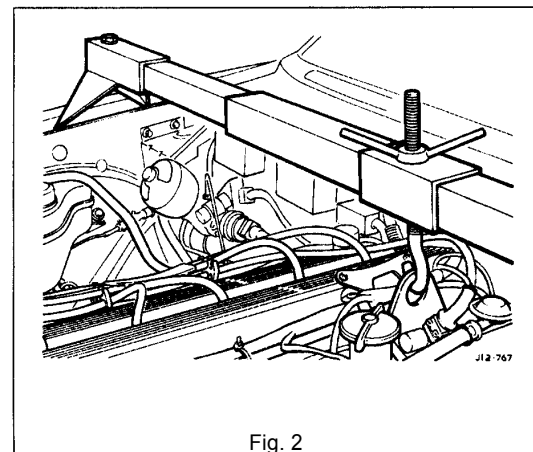

Fig. 2
- Fit Service Tool MS 538 (Fig. 2) across the wing channels and align to rear lifting bracket.
- Mount the gear selector remote control assembly (1 Fig. 2) in a vice.
- Remove the spring ring (2 Fig. 2).
- Remove the gearshift lever (5 Fig. 2).
- Remove the spring retainer (3 Fig. 2) and spring (4 Fig. 2) from the gearshift lever.
- Remove the gearshift lever lower nylon cup (6 Fig. 2) and upper nylon cup (7 Fig. 2).